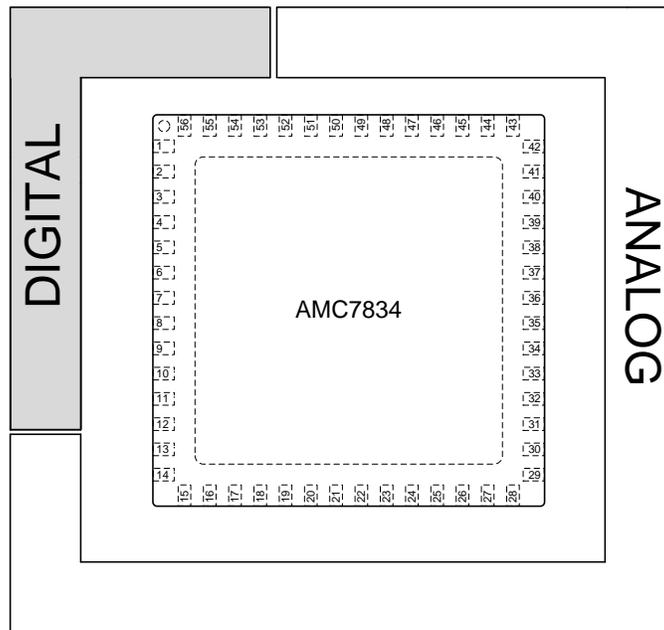

Figure 110. AMC7834 Example Board Layout — Component Placement
- The digital and analog sections should have proper placement with respect to the digital pins and analog pins of the AMC7834 device (see Figure 110). The separation of analog and digital blocks allows for better design and practice as it ensures less coupling into neighboring blocks and minimizes the interaction between analog and digital return currents.